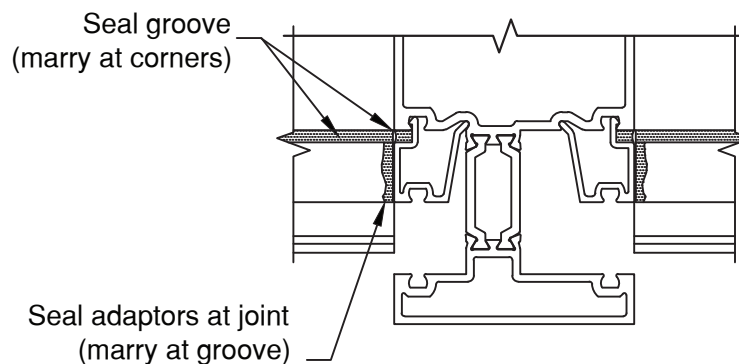

Figure 28
- A.2 Install horizontal adaptors maintaining an equal gap at each end. Once all adaptors have been installed in the opening, seal all corner joints. Run a bead of sealant in the groove formed between the adaptor and mullions. This seal must be continuous around the opening and must marry with the seal at the corner joints. **SEE FIGURE 28.**